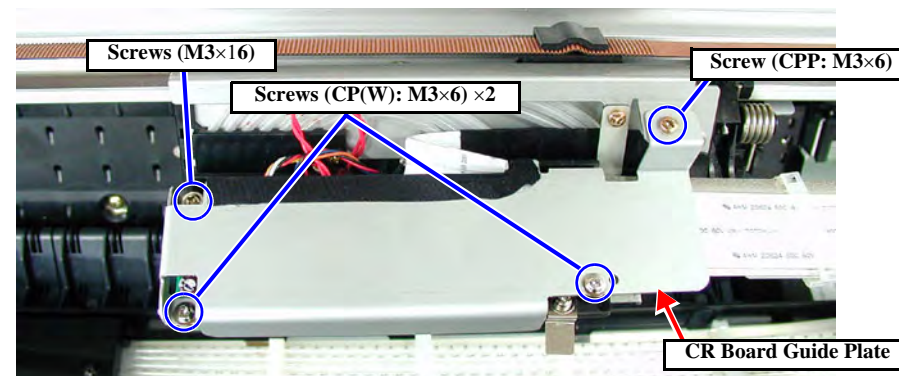

Figure 4-30. CR Board Guide Removal
(See Figure 4-30)
6. Remove one screw (CPPM3×6) securing the CR Board Guide, and remove three screws (CP(W): M3×6) securing the ground line, washer (M3), and CR Board Guide. (See Figure 4-30)
5. Remove one screw (CPP M3×6), two screws (CP(W): M3×6) and one screw (M3×16) securing the CR Board Guide, and also the ground line and the toothed washer (M3), and remove the CR Board Guide. (See Figure 4-30)